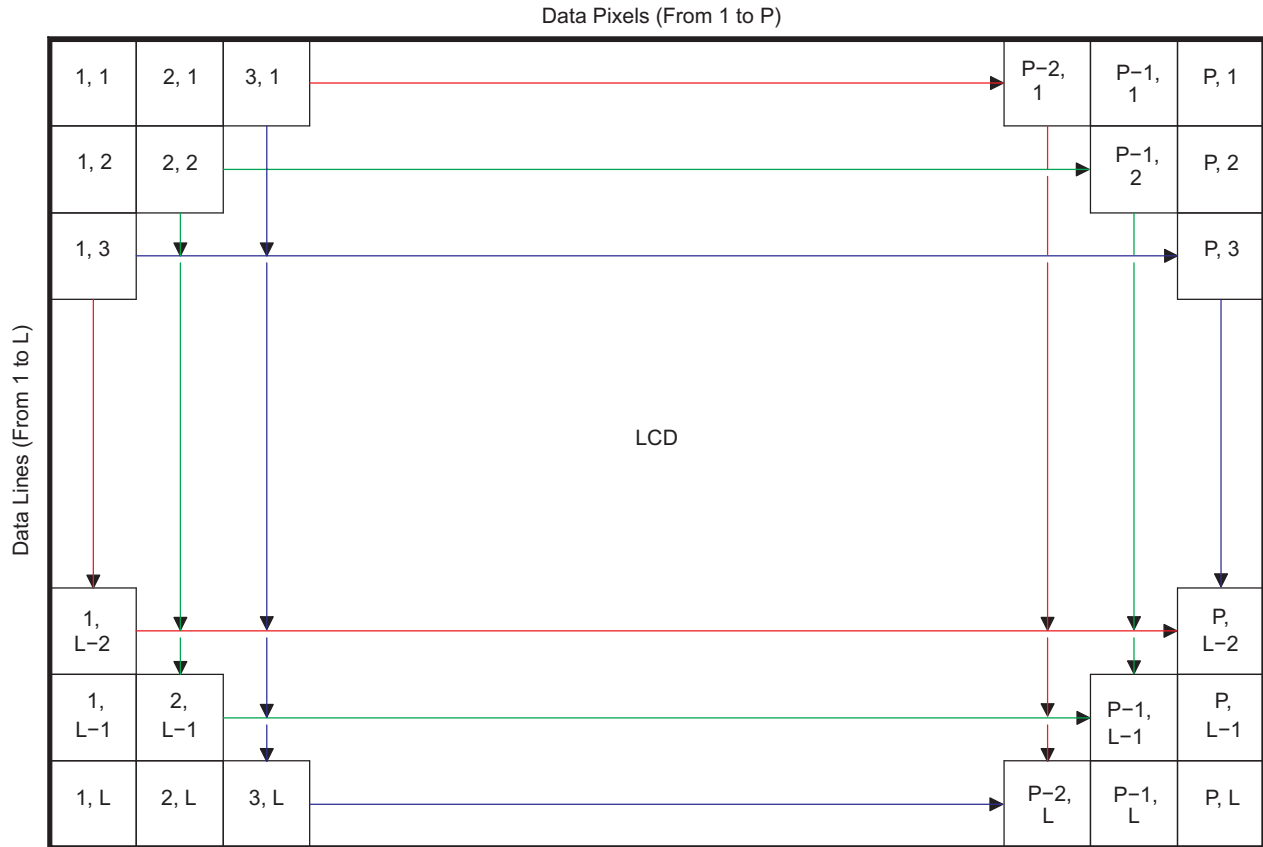
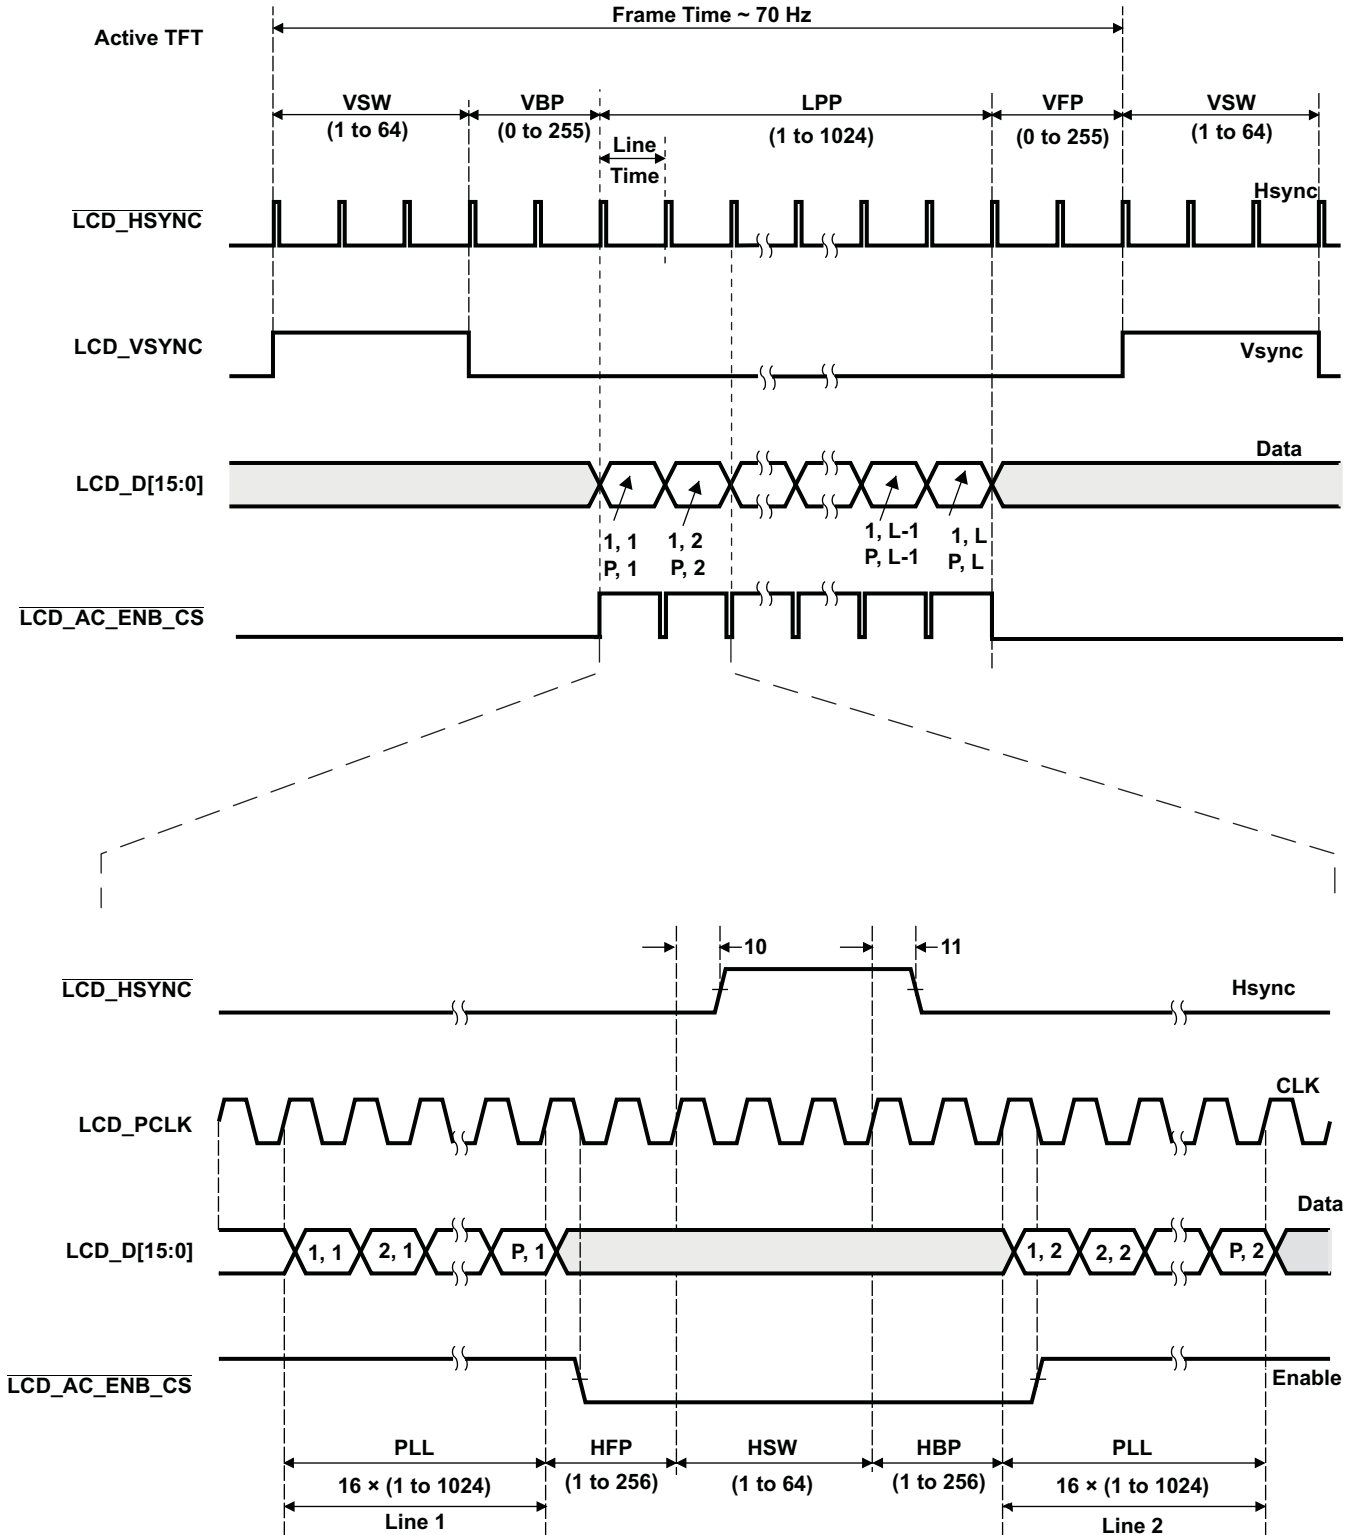
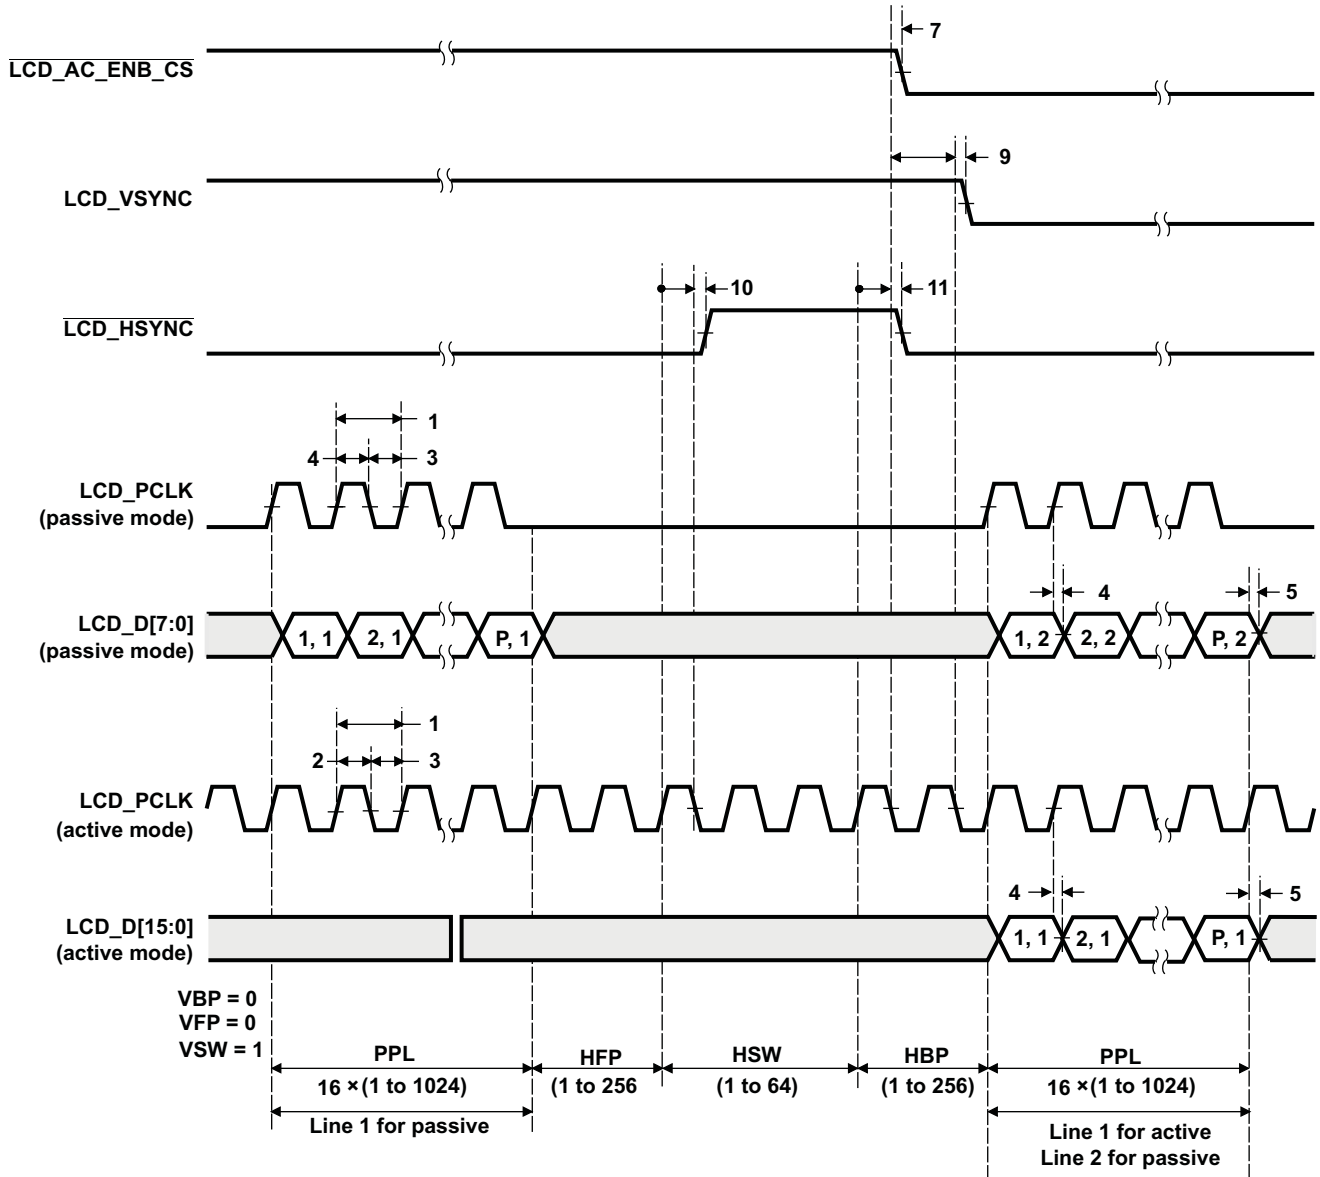

Figure 6-55. LCD Raster-Mode Display Format
Figure 6-56. LCD Raster-Mode Active
Figure 6-59. LCD Raster-Mode Control Signal Deactivation
See Figure 6-55 through Figure 6-59
(2) The activation edge of the control signals LCD\_VSYNC and LCD\_HSYNC may be programmed to either the rising or falling edge of the pixel clock through the LCD (RASTER\_TIMING\_2) register. In Figure 6-56 through Figure 6-59, all signal polarity and activation edges are based on the default LCD (RASTER\_TIMING\_2) register settings.
The display format produced in raster mode is shown in Figure 6-55. An entire frame is delivered one line at a time. The first line delivered starts at data pixel (1, 1) and ends at data pixel (P, 1). The last line delivered starts at data pixel (1, L) and ends at data pixel (P, L). The beginning of each new frame is denoted by the activation of I/O signal LCD\_VSYNC. The beginning of each new line is denoted by the activation of I/O signal LCD\_HSYNC.